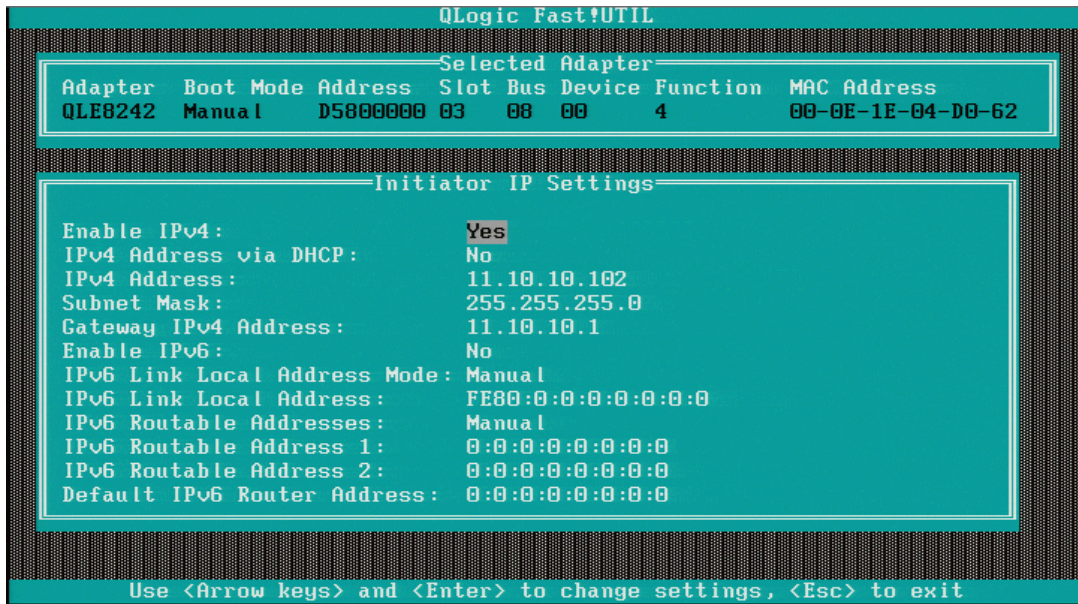

Figure 104 Initiator IP Settings
7. The **Initiator IP Settings** displays, as shown in Figure 104